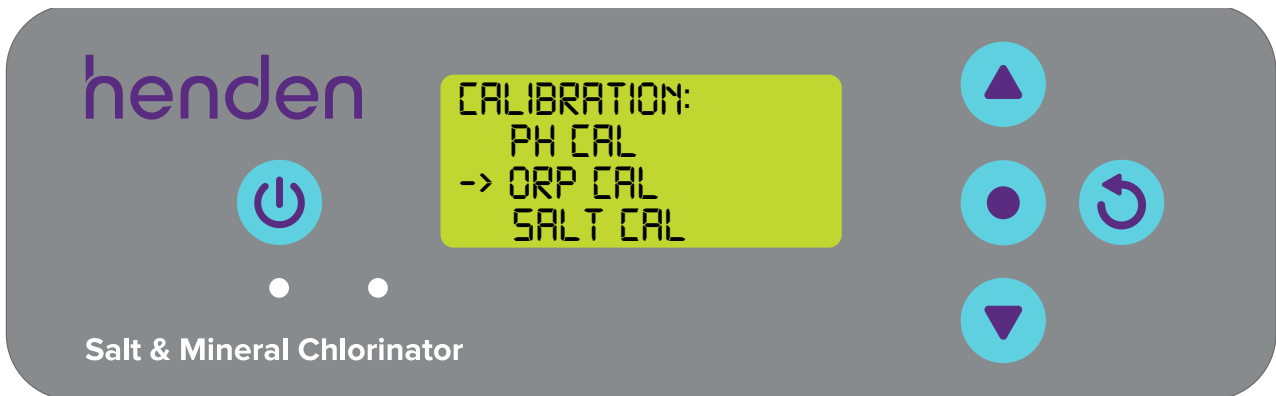

Figure 8.45
- Press the  menu up/down buttons to scroll down to ORP CAL (Figure 8.45). Then press the  menu/setting select button